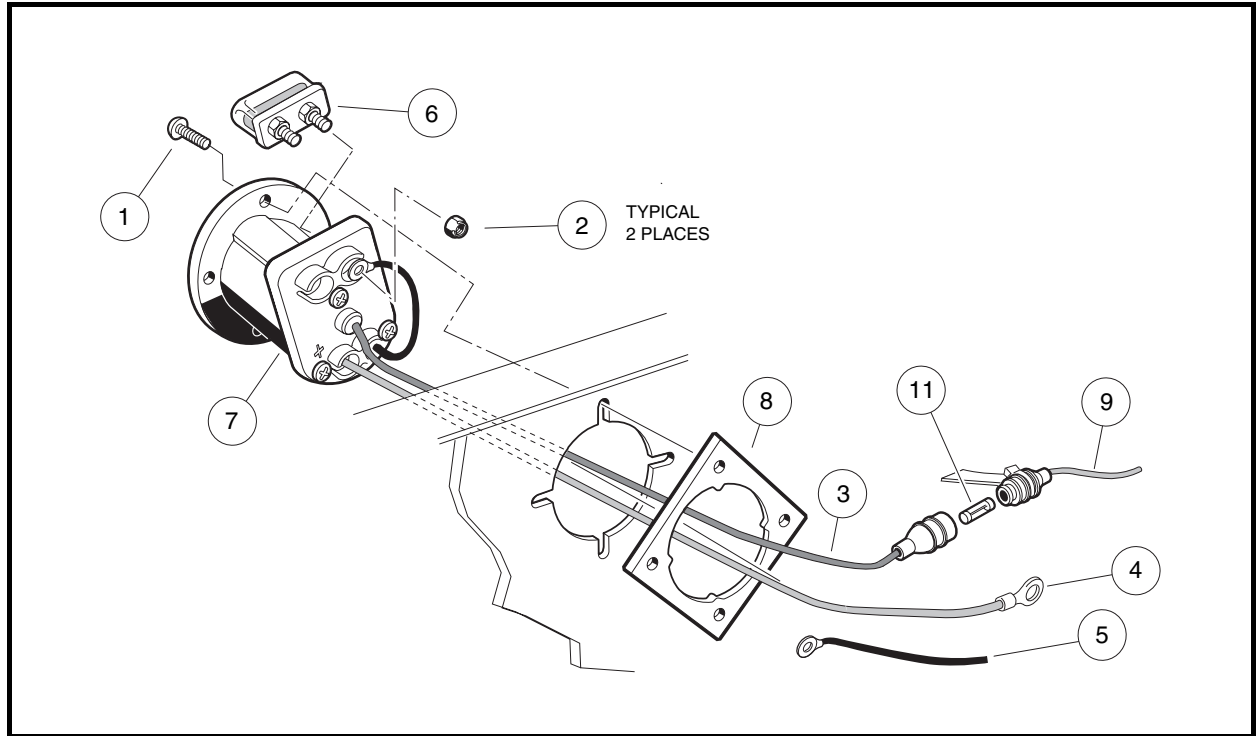

Figure 23-14 Charger Receptacle
2. Remove the 10-gauge red wire (4) from the positive post of battery no. 1 (**Figure 23-14, Page 23-16**).
3. Remove black 10-gauge OBC wire (5) from charger receptacle.
4. Disconnect the gray wire (9) from the receptacle at the yellow fuse holder.
5. Remove the four screws (1) that secure the charger receptacle bezel (7) to the receptacle backing plate (8) and to the vehicle body.
1. Insert the 10-gauge red wire (4) and the 18-gauge gray wire (3) through the hole in the vehicle body and the receptacle backing plate (**Figure 23-14, Page 23-16**).
3. Install the four screws (1) that secure the receptacle to the vehicle body and receptacle backing plate (8). Tighten screws to 16 in-lb (1.8 N·m).
4. Connect 18-gauge gray wire (9) to yellow fuse holder. Make sure fuse (11) is installed in fuse holder.
5. Connect the 10-gauge black wire (5) to the receptacle fuse link (6) on the charger receptacle (**Figure 23-14, Page 23-16**). Tighten to 23 in-lb (2.6 N·m).
6. Connect the 10-gauge red wire (4) to the positive post of battery no. 1.
The fuse link on the 48-volt electric vehicle should not blow under normal operating conditions; however, if the fuse link has blown, the vehicle will not charge and the fuse must be replaced. The fuse link (6) is mounted on top of the charger receptacle in the battery compartment (**Figure 23-14, Page 23-16**).
1. Remove the fuse link (6) from the charger receptacle (7) by removing the two nuts and washers used to secure the 10-gauge black wire (5) from the computer and the 10-gauge black wire to the receptacle (**Figure 23-14, Page 23-16**).
2. Remove the fuse link (6) from the charger receptacle.
3. Install nuts (2) on fuse link mounting posts and tighten to 23 in-lb (2.6 N·m) (**Figure 23-14, Page 23-16**).